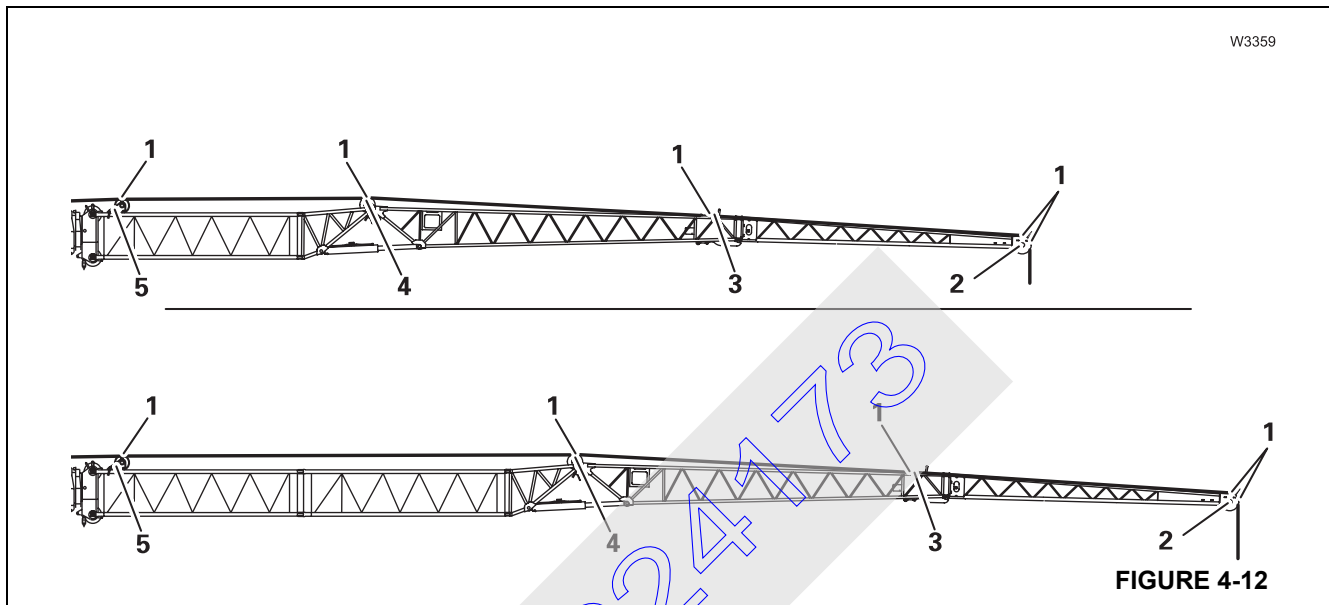

FIGURE 4-12
- For both boom extensions, guide the hoist rope via the deflection sheaves (5), (4), (3), and via the head sheave (2) on the 23 ft (7 m) section (see Figure 4-12).